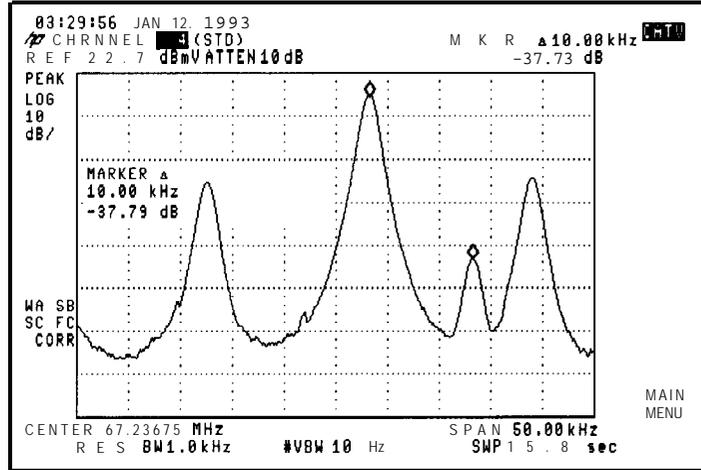

Figure 2-41. View Co-Channel Measurement
5. Press VIEW CD-CHNL to set the analyzer to see co-channel interference. See Figure 2-41. Also, see Chapter 5 for more information about VIEW CO-CHNL